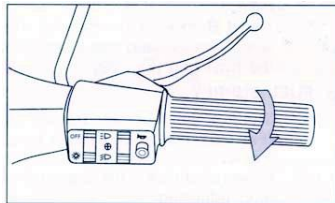

Fig. 25
4. **ACCELERATOR CONTROL:** Located on the right hand side of the handlebar. It is a twist grip. For increasing acceleration rotate the twist grip towards yourself. Do the reverse for decreasing acceleration (Fig. 25).